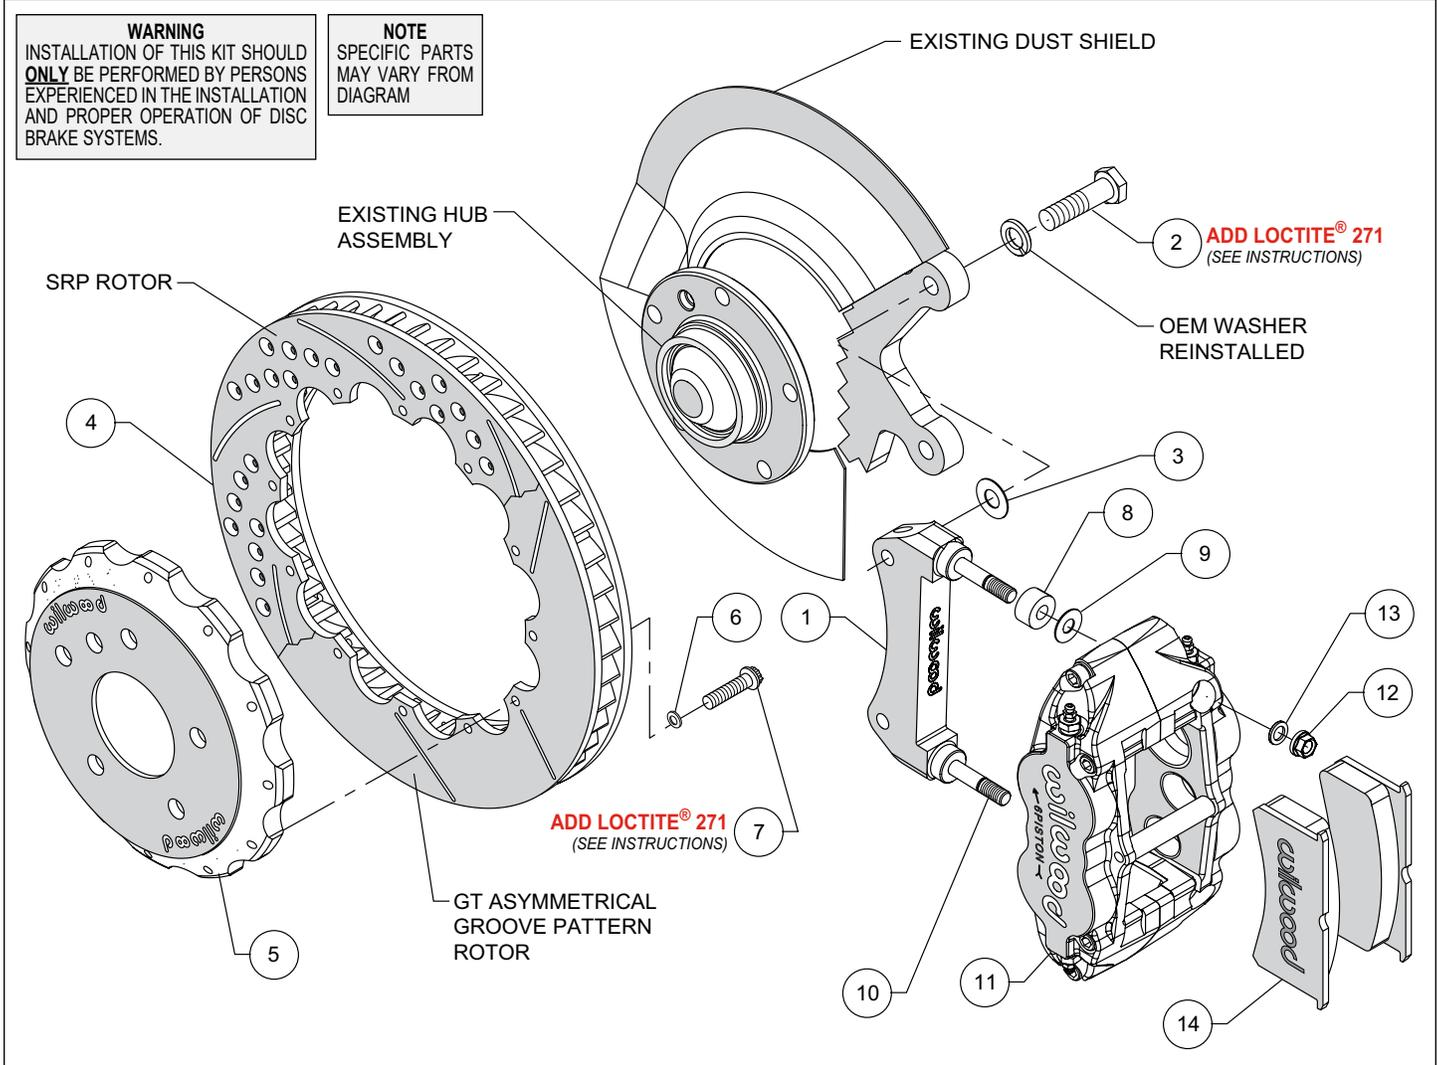

Figure 1. Typical Installation Configuration
NOTE: Numbers in parenthesis refer to the parts list and Figure 1 on the preceding pages.
- NOTE:** This kit contains distinct right and left hand calipers that must be mounted in a specific direction, as described below. Initially place one .035" thick shim (9) and spacer (8) on each stud (10) as shown in Figure 1. Mount the caliper (11) onto the bracket (1) using lock nuts (12) and washers (13), Figure 1. Ensure that the caliper is mounted so that the largest pistons are at the rotor exit end of the caliper, in relation to the direction of rotor rotation. Temporarily tighten the lock nuts and view the rotor through the top opening of the caliper. The rotor should be centered in the caliper. If not, adjust by adding or subtracting shims (3) between